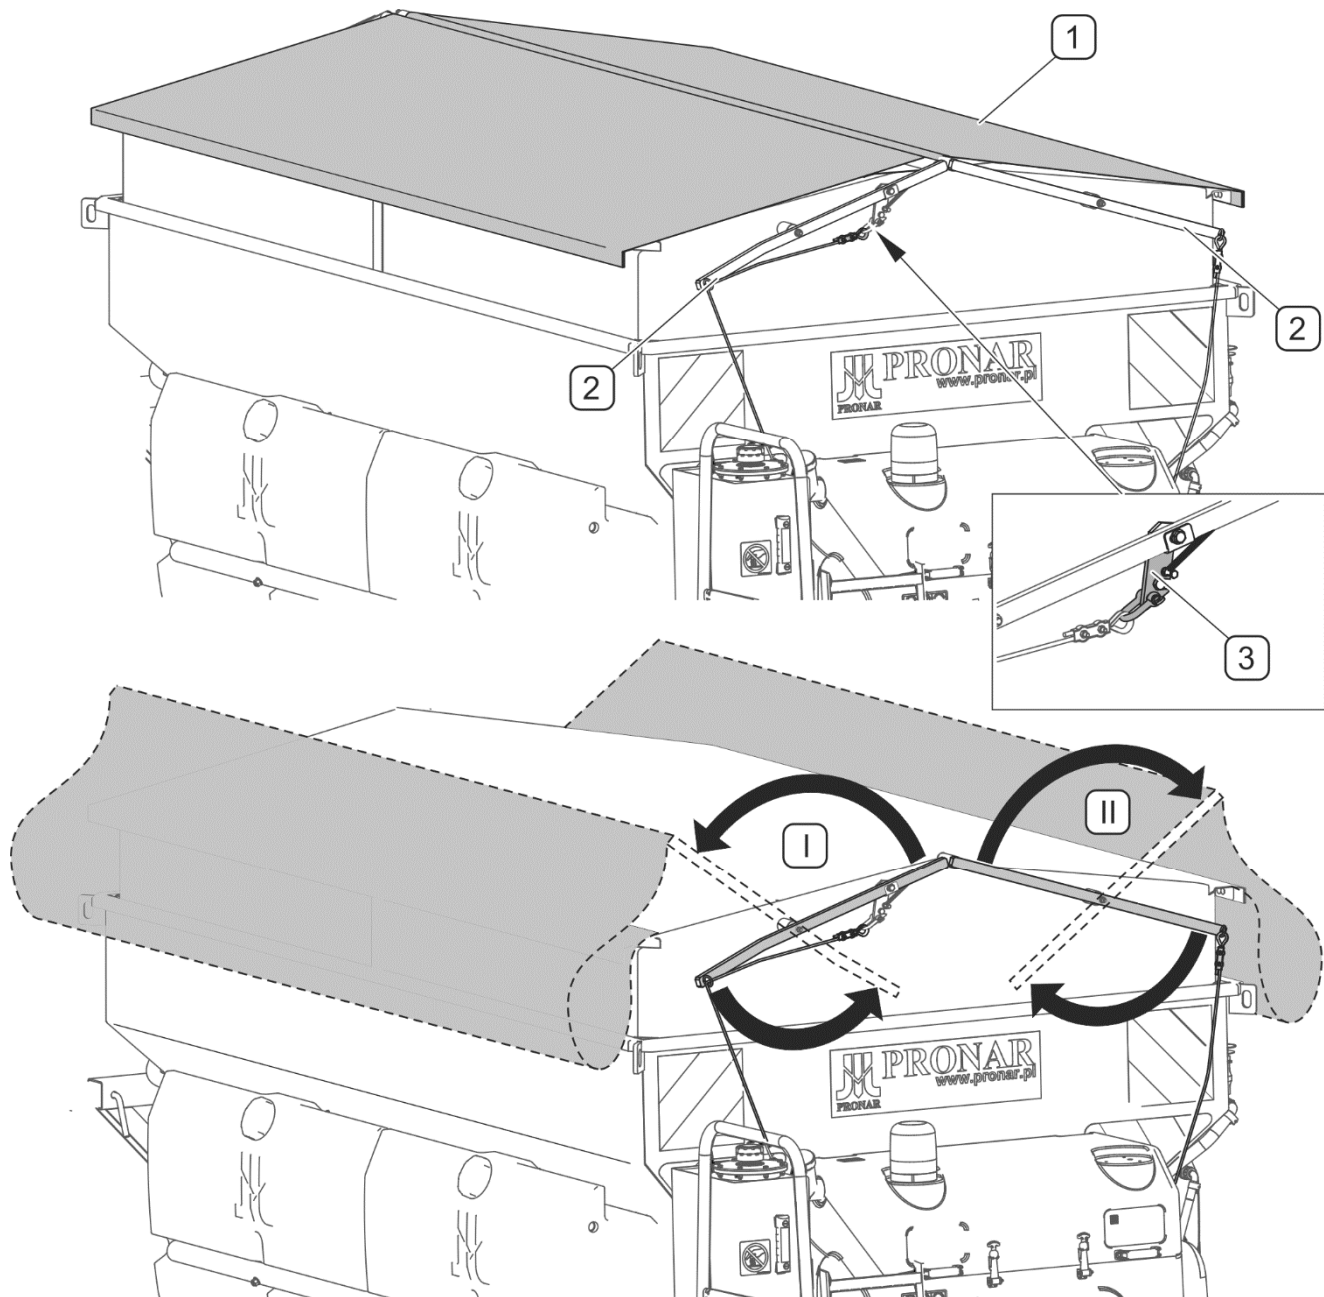

FIGURE 4.20 Raising the tank's tarpaulin cover
- hold the ladder (1) and remove securing cotter pin (3),
- lower the ladder (1).
Release pawl (3) by pulling a cord and raise tarpaulin cover by means of frame lever. Tarpaulin cover rising sequence (I) - (II) is shown in (FIGURE 4.20).
(1) - tarpaulin cover; (2) - frame lever; (3) - pawl
Before loading, check that there are no foreign objects (tools, stones etc.) in the tank. The tank should be loaded from above through the screen that prevents lumps of material from entering the tank. When loading the tank, it is recommended to use a front loader or belt conveyor. Efforts should be made to evenly distribute the load in the tank in order to ensure proper stability of the sand spreader. Avoid throwing material into the tank from a great height. After loading, cover the tank with tarpaulin cover (FIGURE 4.20) and make sure that the pawl (3) is locked.